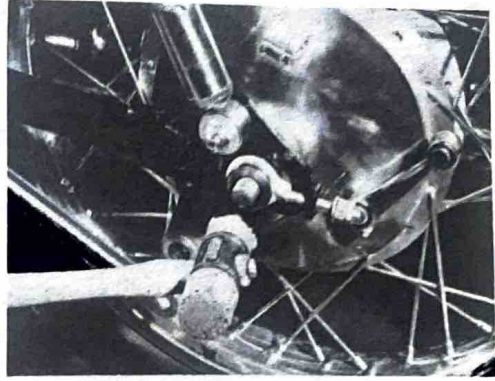

Fig. 5-2-7
- 4) Pull out the rear wheel shaft by striking it with a soft-faced hammer. (Fig. 5-2-7)